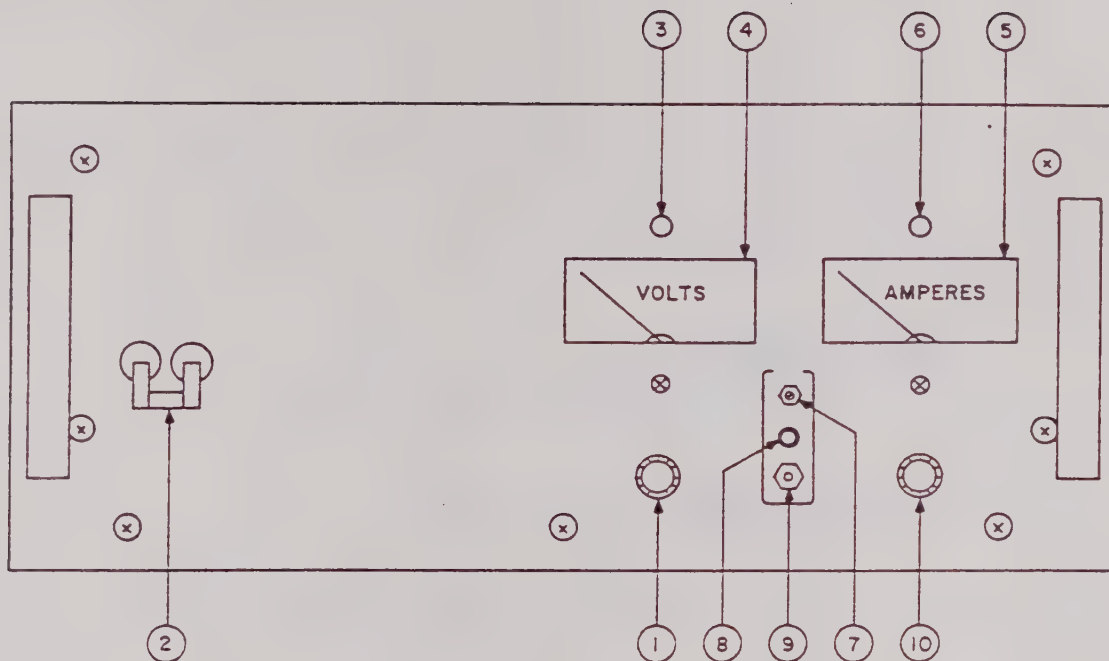
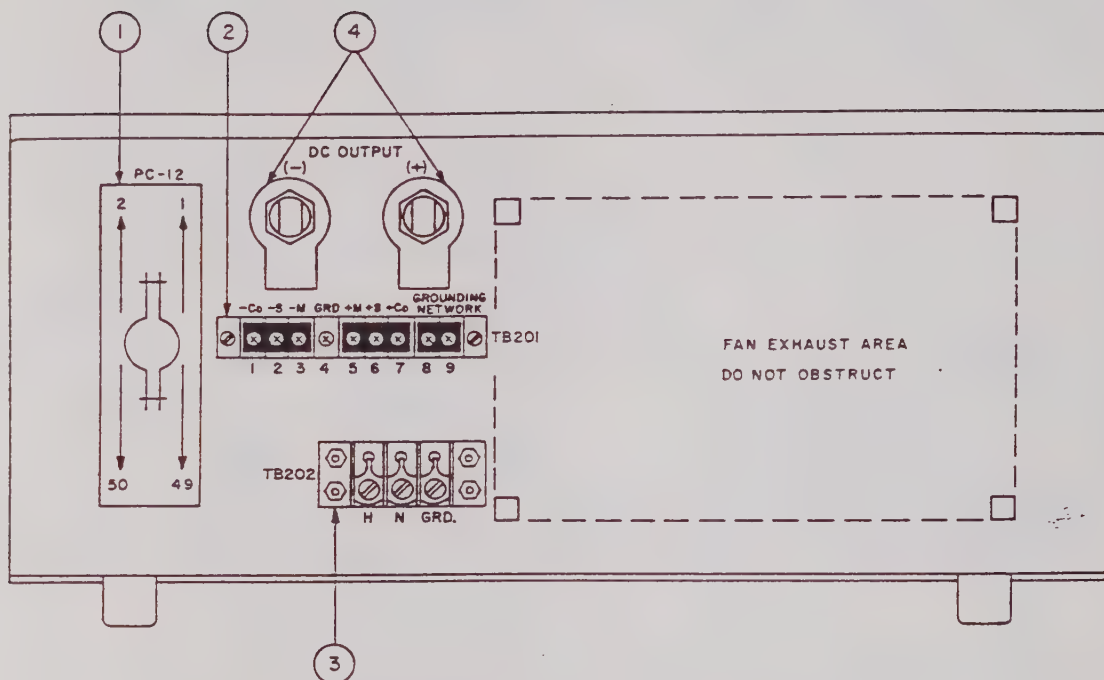

FIG. 2-2 CONTROLS AND TERMINATIONS, ATE FULL RACK GROUP, FRONT.
FIG. 2-3 TERMINATIONS, ATE FULL RACK GROUP, REAR.
- FRONT PANEL: Refer to FIG. 2-2 and Table 2-2.
- REAR: Refer to FIG. 2-3 and Table 2-3.
A simple operating check after unpacking and before permanent installation is advisable to ascertain whether the power supply has suffered damage resulting from shipment. Refer to FIG. 2-2 and to FIG. 2-3 for the location of the operating controls and output terminals.
A resistor/capacitor network is connected from the negative monitor terminal to the metal chassis of the power supply. If this internal network is *not* desired, the connection to the chassis can be opened by removing the link (8)-(9) on TB201 (See FIG. 2-3).